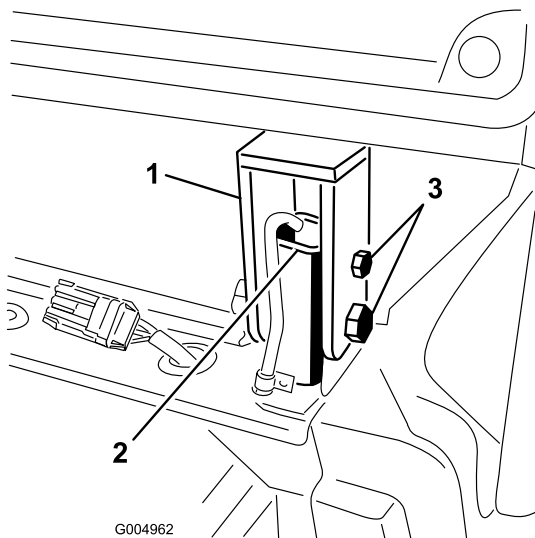

Figure 43
12. Tighten the bolts and nuts securing the rear cab mounts to the ROPS posts (Figure 43). Adjust the floor jack if the bolts are binding and difficult to remove.